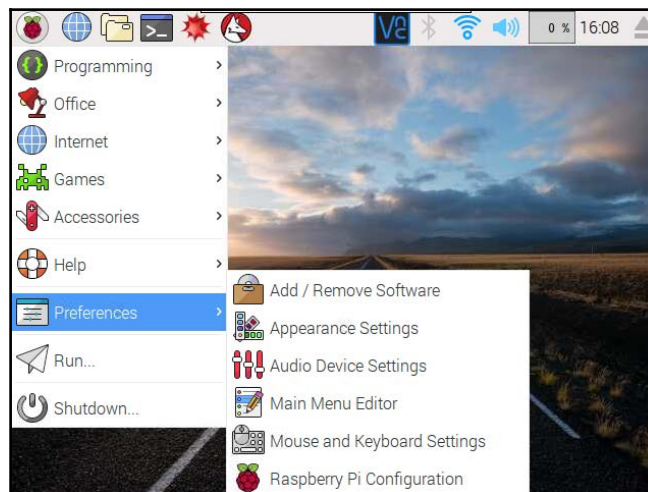

Figure 2.7
11. Configure the username, password, and hostname from Raspberry Pi's **Configuration** tab by clicking on **Preferences** under **Menu**, as shown in *Figure 2.7*: